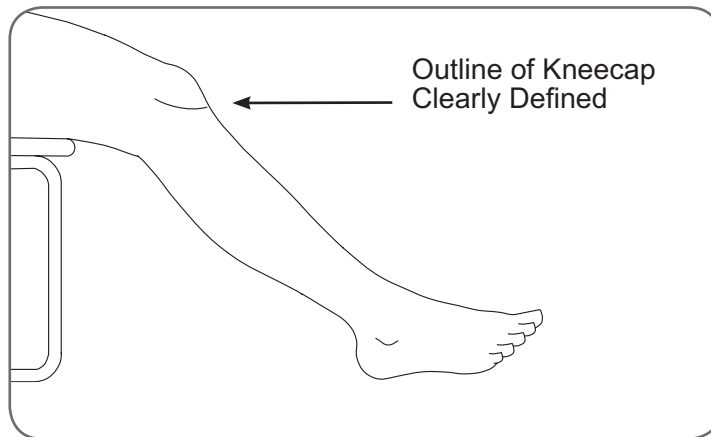

Figure 7-1: Recommended knee angle for putting on the L300 FS Cuff.
3. While seated, slightly straighten your leg. The outline of your kneecap should be clearly defined. Place your foot on a footrest, if necessary. See Figure 7-1